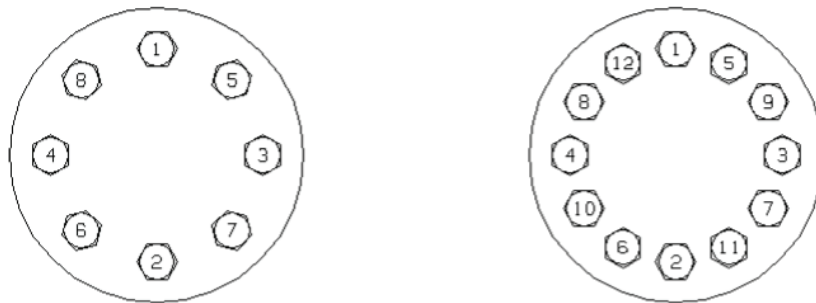

Figure 8 - Bolting Torques and Tightening Sequence
Care must be taken to ensure that the cage, seat, and bonnet are properly aligned in the body. Cage should be installed with parts at lower end, near seat ring. Tighten nuts (10) until metal to metal contact is obtained with proper bolt torque. Refer to Figure 8 for proper bolt torque and tightening sequence specifications.
G. Insert packing (6) [and lantern ring (7) on valve equipped with an optional lubricator or lead detection connection. Refer to Section 7.6 for proper packing assembly procedure for standard or optional designs.
H. Install packing follower (5) and packing flange (4).
I. Install packing flange stud nuts (3).